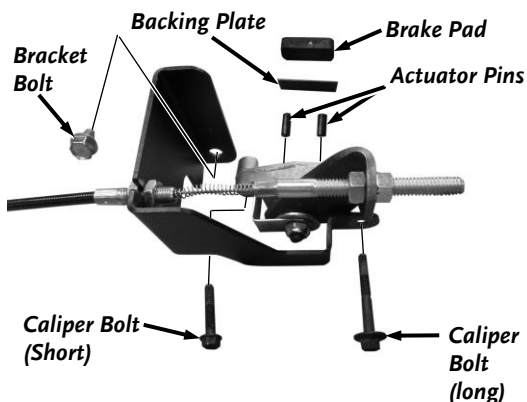

Figure 47
Note: The inside of the Caliper contains four small parts: the Brake Pad, the Backing Plate, and two small Actuator Pins (**Figure 47**). As you let the Caliper hang from the Brake Cable, keep track of these parts as they will likely fall out. Clean away any debris from these parts and the inside of the Caliper.
8. Lightly grease the Actuator Pins with Lithium Grease and insert the Pins into the Caliper (**Figure 47**).